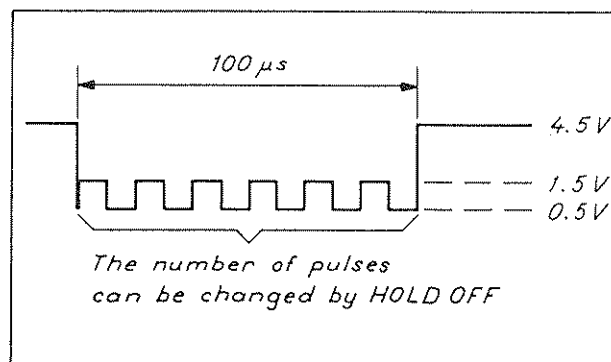

Fig. 8.2 Gate monitor pulse with HOLD OFF pressed and turned to minimum position.
- Switch the HOLD OFF on with the potentiometer pressed in and turned to the fully counter clockwise position. There should be a signal as in fig. 8.2, where the frequency of the superimposed pulses on the square wave is adjustable by means of the HOLD OFF.